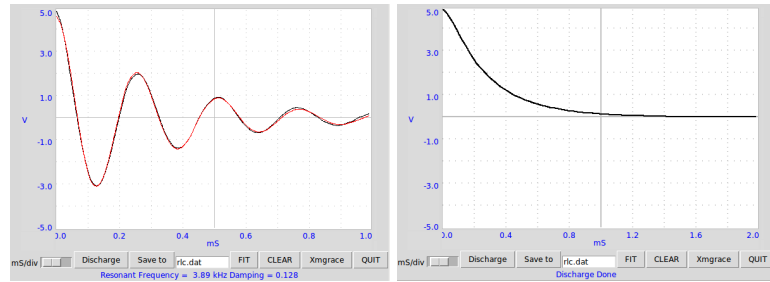

Figure 2.8: Transient response of LCR circuit, (a) Under-damped (b) Over-damped.
**Observation** We have used the 3000 turn coil and a 0.1uF capacitor, added a 2.2k series resistor in the second case. The voltage across the capacitor after a 5 to 0V step is shown in figure 2.8. The measured resonant frequency tallies with  $f = \frac{1}{2\pi} \sqrt{\frac{1}{LC}}$ , within the component tolerance values.